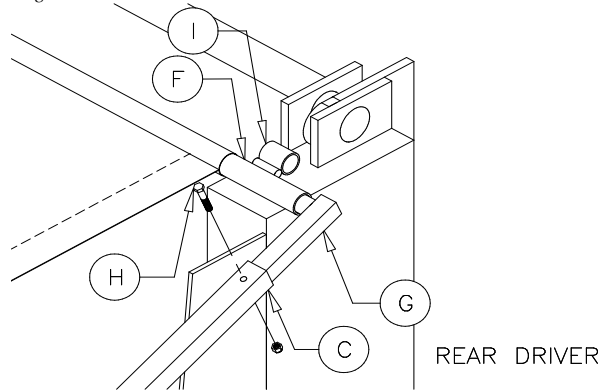

Figure 14
Using a 5/16" drill bit, drill through the bottom and top pivot arm on both sides of the box. Secure the pivot arms with the 5/16"x1-3/4" hex bolt (H) and 5/16" nylon lock nut provided (see Figure 14). Adjust the pivot arms so they are aligned with the sides of the box.